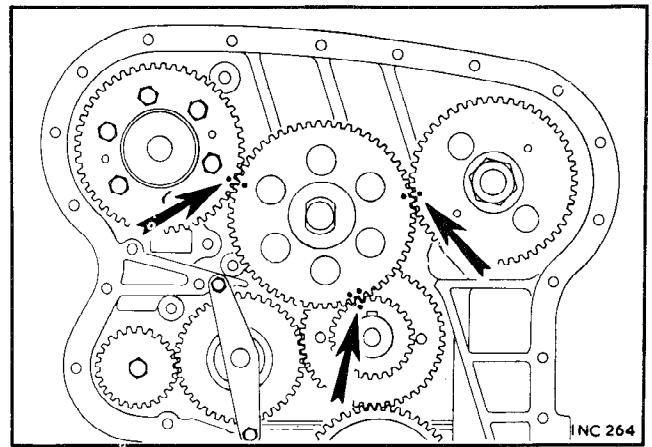

Fig. 1
- g. Assemble the timing gears with their timing marks positioned as shown in Fig. 1.